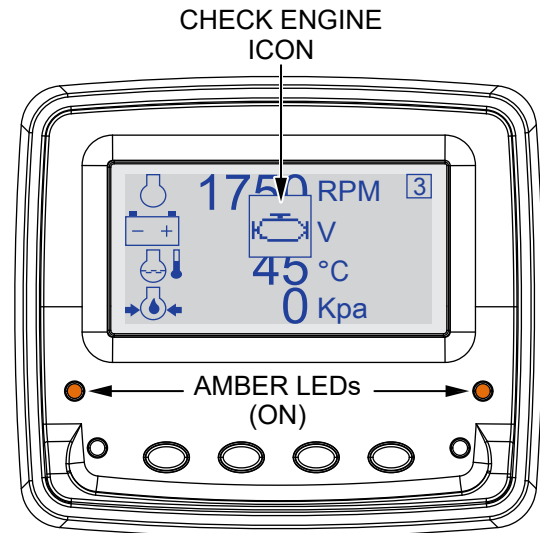

Figure 21. Diagnostic Display (Active Fault)
- If the **amber LEDs** are **ON** (Figure 21), and the **Check Engine icon** is shown on the display, there is an active fault condition. Shut down the engine and correct the problem before continuing operation. Refer to the **Troubleshooting** section for more information.